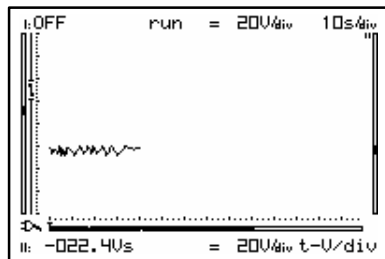

Fig 31
- At 10s/div timebase or slower, the readouts are forced to the instant information. ‘Vs, V1, V↓, V↑’ (Fig. 31 & 32) .